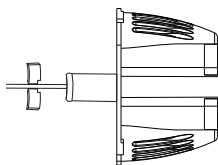
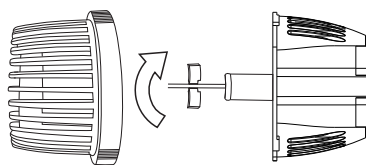
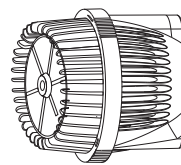

Fig. 3
Fig. 4
Fig. 5
3.Install back the pump,first, put the impeller into the pump, like the Fig.3 Then install the impeller and the front cover , like the Fig.4 At the last rotate the front cover tightly,like the Fig.5